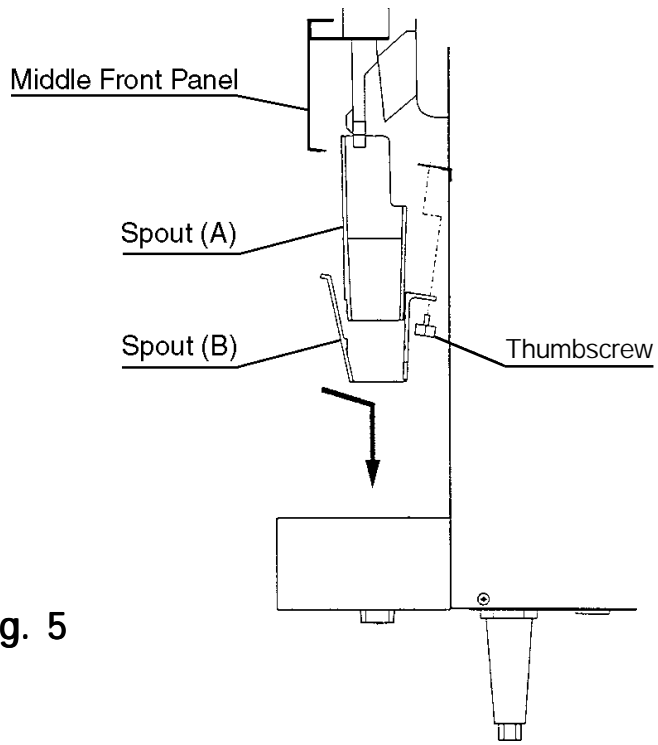
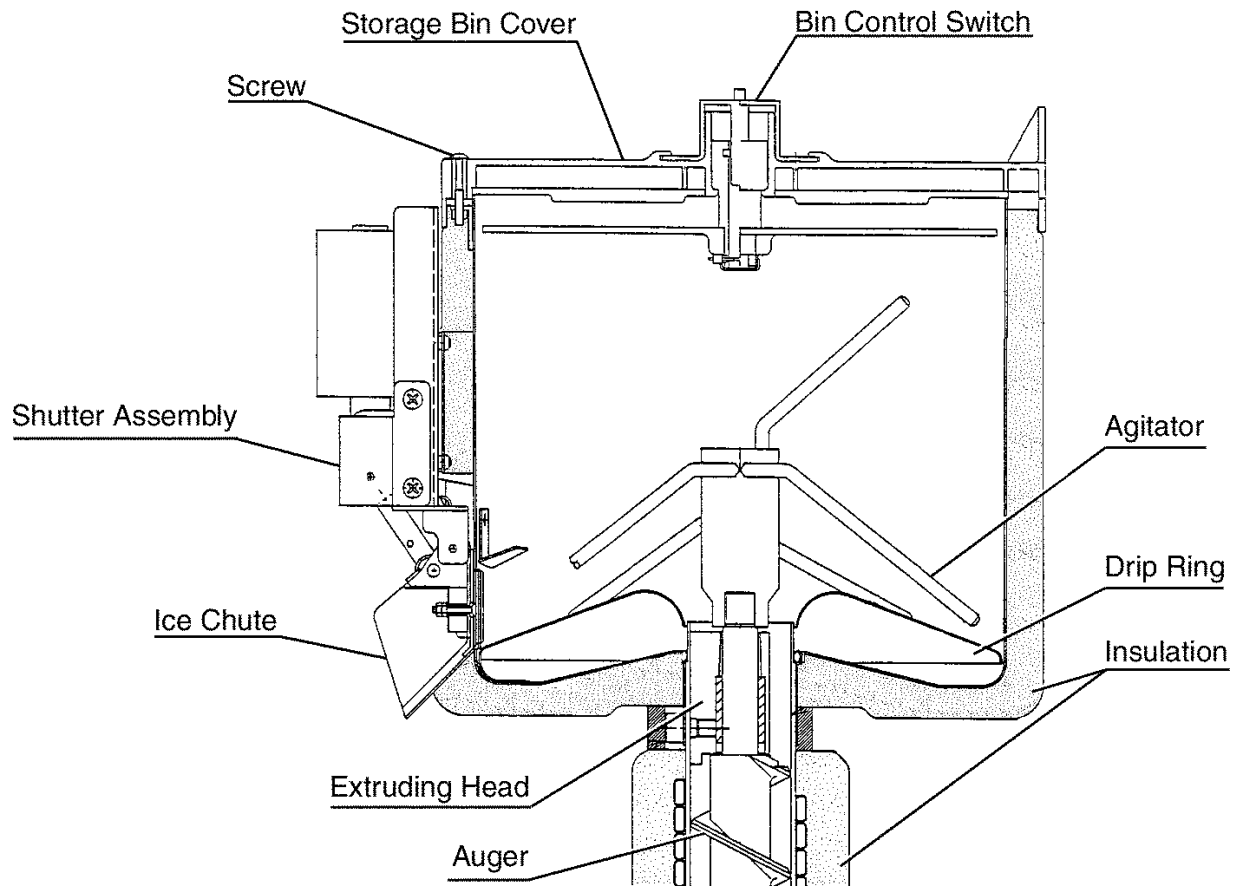

Fig. 5
Fig. 6
- 6) Remove the Spouts (A) and (B) by removing the Thumbscrew, sliding the Spouts backward and then pulling them down. See Fig. 5.
- 7) Pull out Spout (A) from Spout (B).
- 8) Remove the Top Panel and Storage Bin Cover. See Fig. 6.
- 9) Remove the Agitator and Drip Ring. Wipe, using a clean cloth containing the cleaning solution. See Fig. 6.